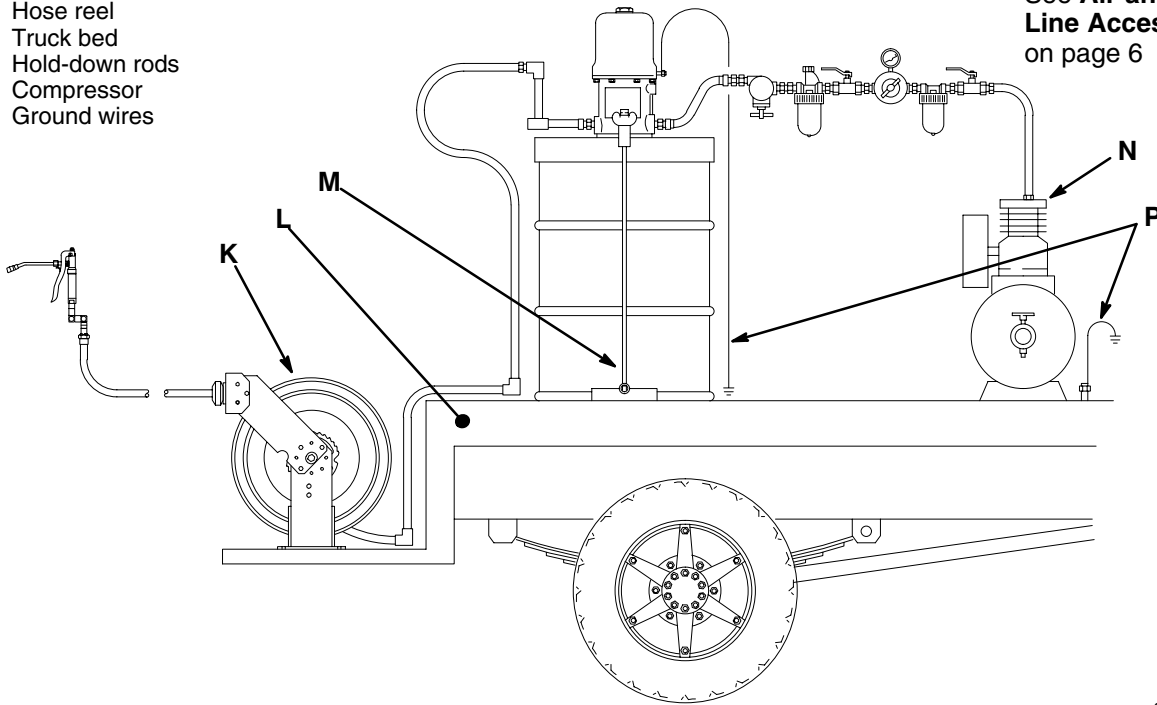

Fig. 4
**NOTE:** See Fig. 4 on page 8 for the mobile mounting installation.
The typical installation shown in Fig. 4 is only an installation guide; it is not an actual system design. Contact your Graco distributor for assistance in designing a system to suit your needs.